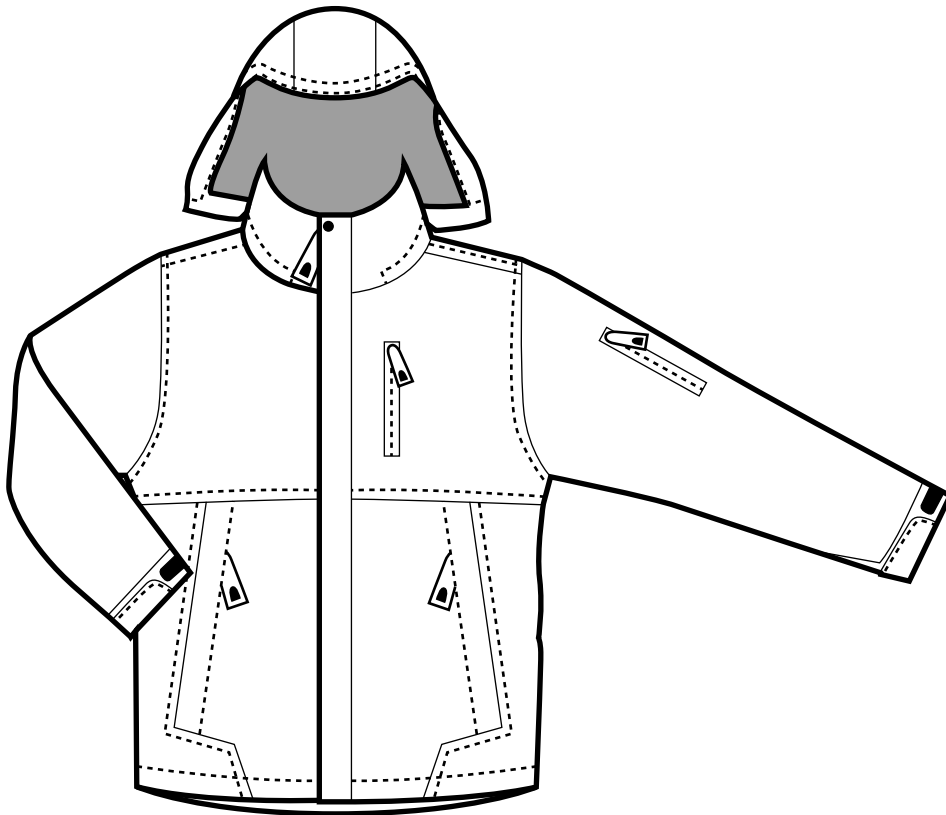

Fig. 10
Fig. 10 shows an outdoor jacket. The jacket is fully lined.
(a) Give FOUR design requirements for the outdoor jacket shown in Fig. 10. Justify each requirement.
- (b) Describe TWO examples where ergonomics has influenced the design of the outdoor jacket shown in Fig. 10.
- (e) (i) State ONE SUITABLE SPECIFIC FIBRE for the outdoor jacket shown in Fig. 10. Give TWO performance characteristics that make the fibre suitable for this use.**